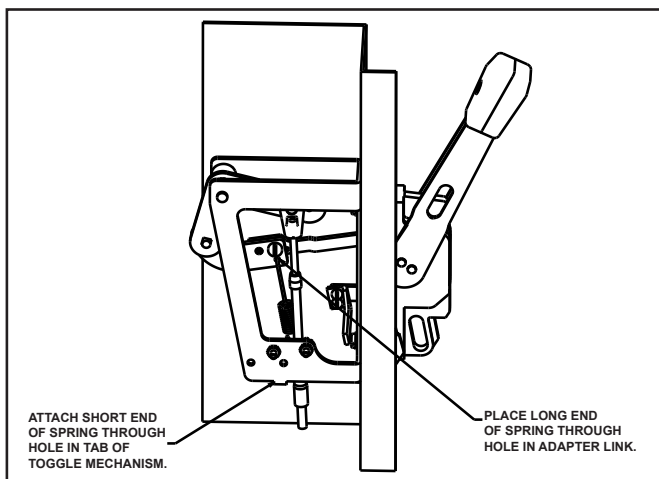

Fig. 1-7 Assembly of Spring to Toggle Mechanism.
6. Connect the long end of the spring through hole in the adapter link. Hook the shorter end of the spring into the tab on the lower portion of the toggle mechanism. See Fig. 1-7.